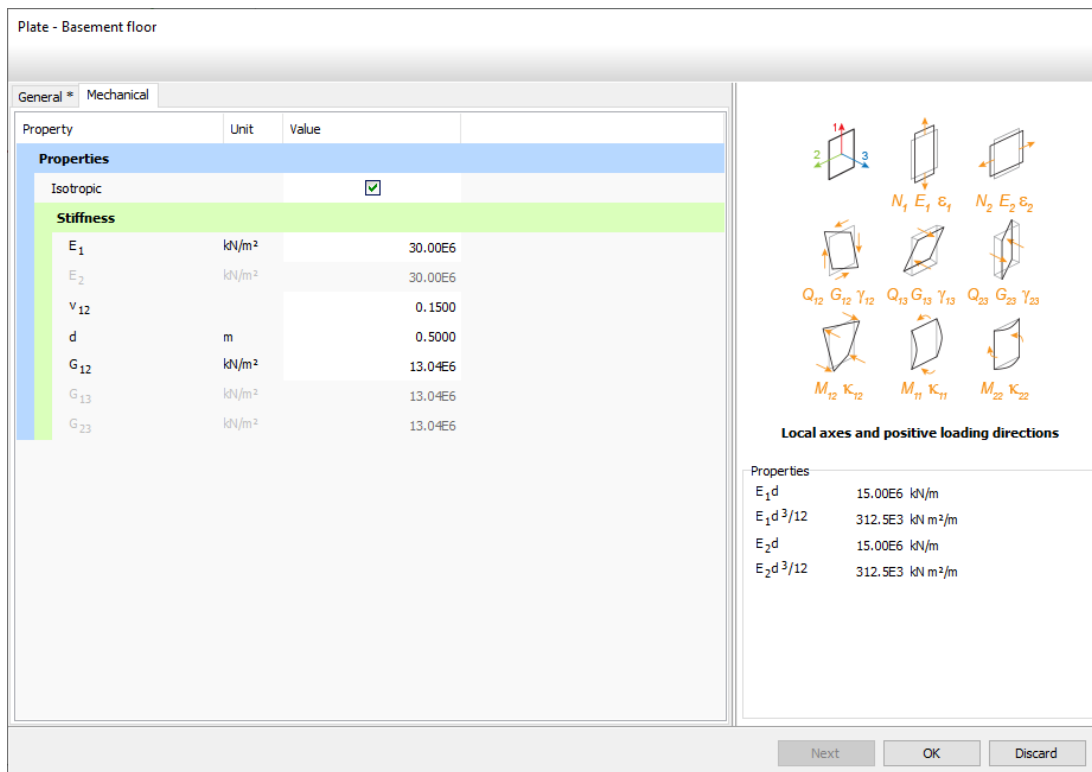

Figure 22: Mechanical properties of basement floor plate
9. Create data sets for the basement floor and for the basement walls according to Table 2 (on page 28). At the moment of defining the Mechanical properties of a plate, a local axes and loading direction conventions window appears as displayed in Figure 22 (on page 31).